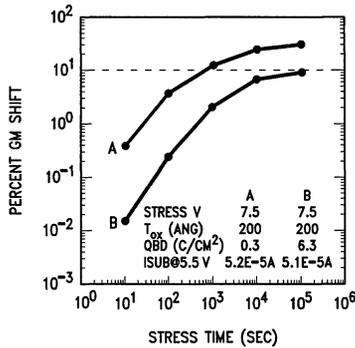

FIGURE 2.  $G_m$  Degradation over Time for Devices with the Same Substrate Current and Stress Voltage, but Different  $Q_{bd}$
In the Charge-to-Breakdown measurement, a constant current density is forced ( $J = 0.1 \text{ A/cm}^2$ ) while the gate voltage is monitored. This is done until avalanche breakdown occurs, which is defined as a 50% reduction in the gate voltage in a one second interval.  $Q_{bd}$  is calculated as being  $J \times \text{time to fail}$ , in units of Coulombs/cm2.  $Q_{bd}$ , and not just substrate current alone, has also been found to correlate well with hot electron degradation in the BiCMOS III process (Figures 2 and 3) (2).